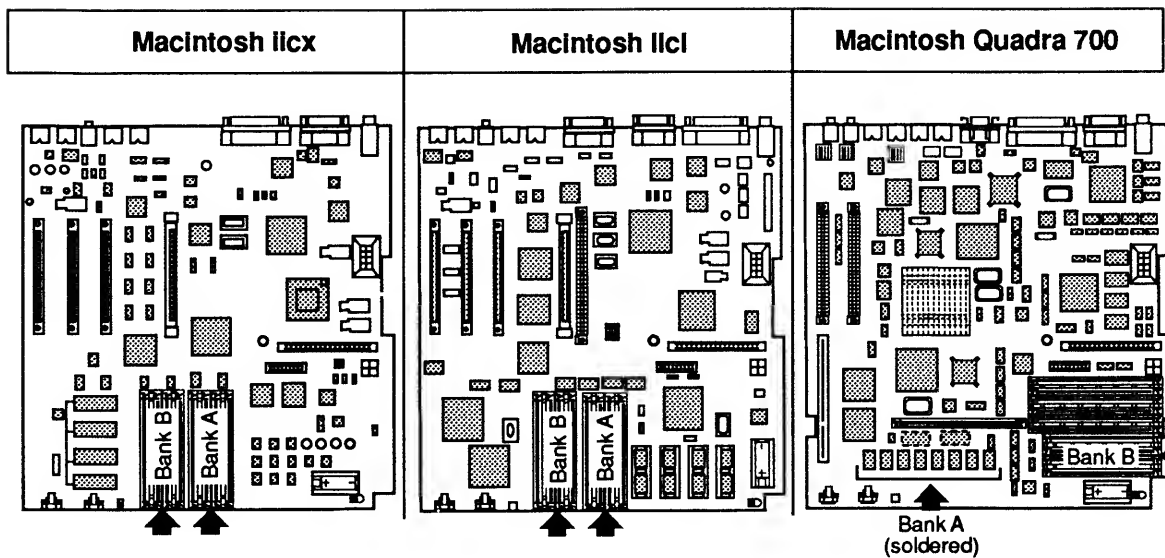

Figure 4-1 DRAM SIMM Verification
3. **Figure 4-1.** If the computer is a Macintosh IICx or IICI, install four known-good DRAM SIMMs in Bank A. If the computer is a Macintosh Quadra 700, install four known-good DRAM SIMMs in Bank B.
8. **Figure 4-1.** To verify DRAM SIMMs installed in Bank B on the Macintosh IICx and IICI, install four known-good DRAM SIMMs in Bank B and repeat the procedure described in steps 4 through 7.